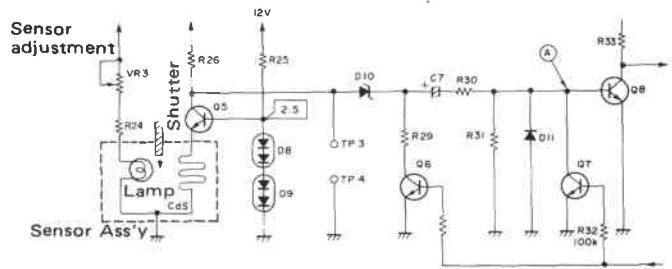

Fig. 4-5 End sensor circuit
1. The construction of the end sensor circuit is shown in figure 4-5. When the tonearm reaches a point approximately 120mm from the center shaft, the shutter attached to the tonearm shaft passes between the lamp and CdS sensor blocking the light.